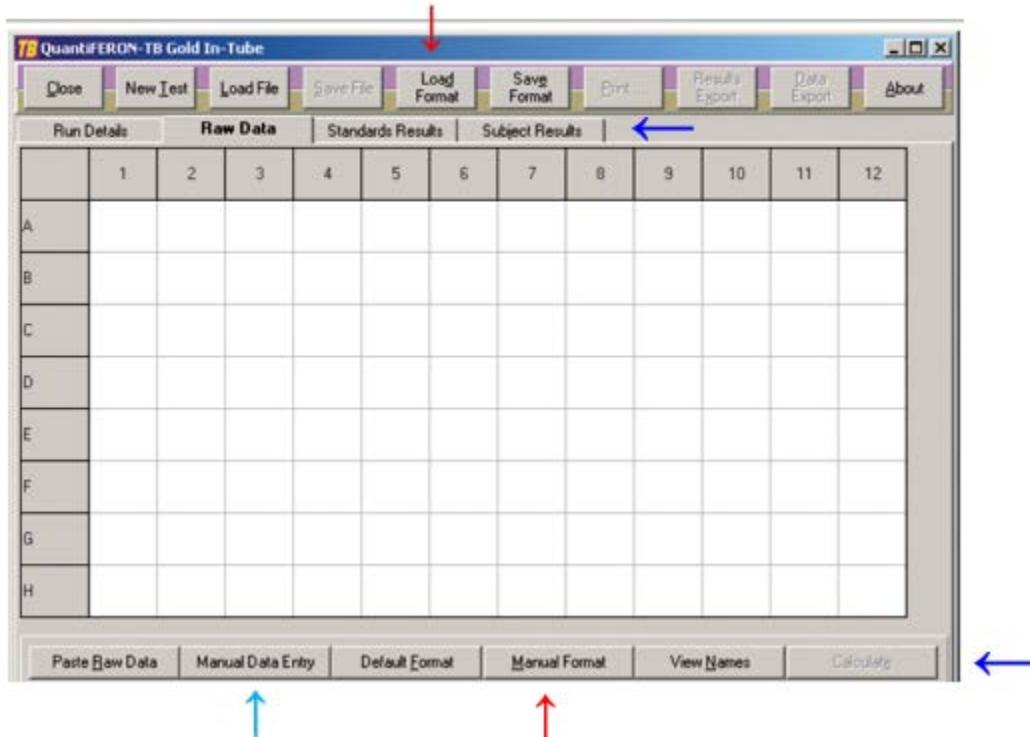

Figure 3
- 4) Select the Load Format Button (Figure 3 ↓) followed by the QFTB 8 point standard partial plate.qff to automatically assign the testing layout for the standards. Set up the standards in the same configuration as outlined in Figure 4. If a full plate was run select the QFTB 8 point full plate.qff.
- 5) Select the Manual Format button to open the manual formatting toolbar (Figure 3 ↑). This toolbar is used to manually assign plate format and sample ID's. Alternatively, subject
- 6) Select the Manual Data Entry button. Click on the cell to enter the data manually. Press **Enter** or click on another cell to store the value. (Figure 3 ↑).
- 7) Once the format has been generated and data entered, select the Calculate button which will now be active (Figure 3 ←), the standard curve for the assay will be automatically analyzed and the standard results screen displayed.
9) Select the Subject Results tab to proceed to next screen (figure 3 ←)